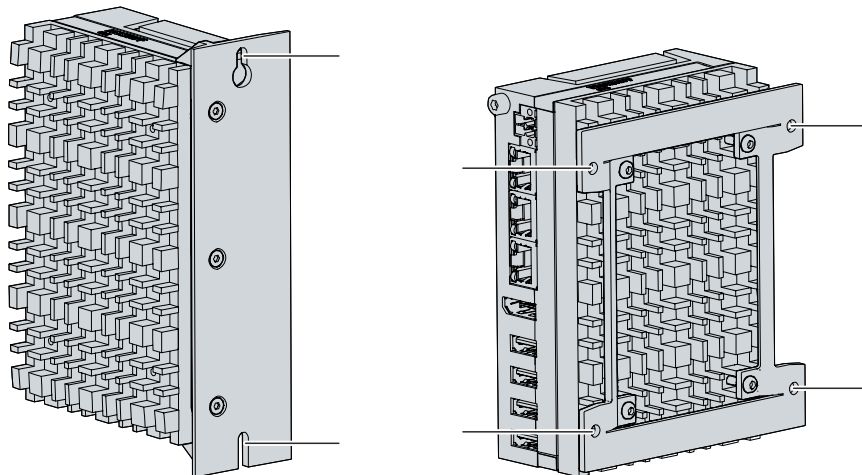

Fig. 14: Mounting plates for control cabinet installation
2. Hang the PC on the screws at the marked points of the mounting plate (see Fig. 14).